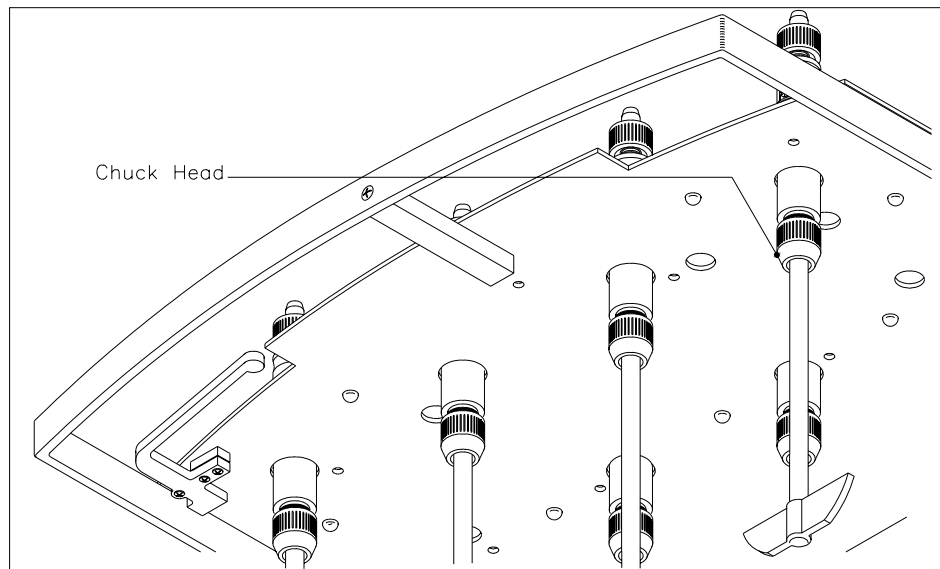

Figure 4-15: Paddle/Basket Shaft Installation
4. Reach under the drive head and loosen the chuck which secures the shaft of each paddle or basket. Insert each shaft through the chuck, so that it is protruding out the top of the drive head. (see Figure 4-15)